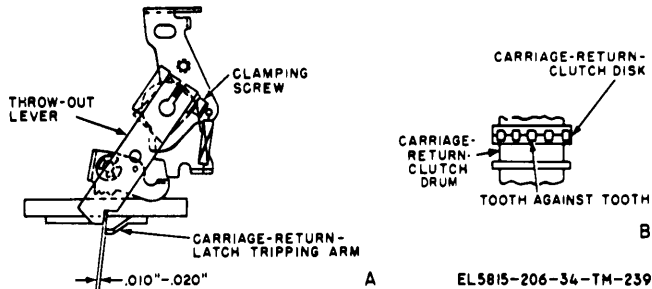

Figure 3-167. Throw-out lever adjustment (TT-4B/TG, TT-4C/TG, TT-335/TG, TT-537/G, TT-698A/TG, and TT-698B/TG).
*c. Adjustment.* Loosen the clamping screw in the throw-out lever (fig. 3-167). Position the decelerating cam and the carriage-feed clutch (fig. 3-154). Loosen the two clamping screws (B, fig. 3-155) and position the carriage-return latch-tripping arm flush with the carriage-return latch when the latch is flush with the carriage-return clutch-actuating lever (A, fig. 3-155). Tighten one of the clamping screws and recheck the requirement (a above). If the carriage-return latch is tripped too soon, position the latch-tripping arm clockwise. If the latch is tripped too late, position the latch-tripping arm coun-
a. *Requirement.* There should be 0.010- to 0.020-inch clearance between the throw-out lever and the carriage-return latch-tripping arm (A, fig. 3-167) when the carriage is in the left-hand margin position.
meets against tooth) (B, fig. 3-167). If the clutch teeth start to engage, hold the carriage-return-clutch drum out of engagement; continue turning the motor until the teeth are in line; and release the clutch drum. Use a feeler gage to check the requirement (a above).